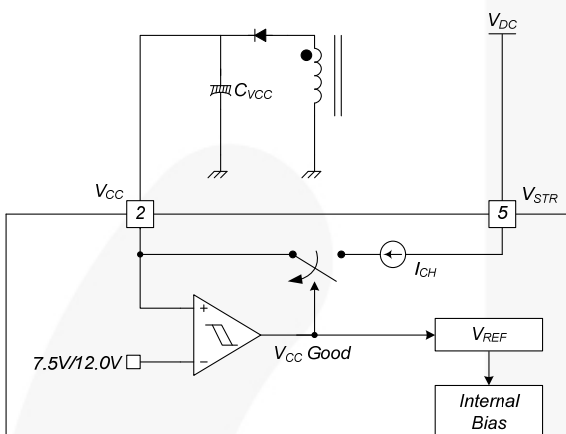

Figure 19. Startup Block
1. Startup: At startup, an internal high-voltage current source supplies the internal bias and charges the external capacitor (C_{VCC}) connected to the V_{CC} pin, as illustrated in Figure 19. When V_{CC} reaches 12V, the FSL156MRIN begins switching and the internal high-voltage current source is disabled. Normal switching operation continues and the power is supplied from the auxiliary transformer winding unless V_{CC} goes below the stop voltage of 7.5V.